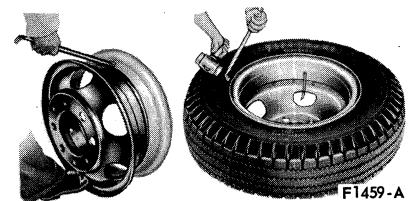

FIG. 2 Removing Ring and Loosening Tire Bead—2-Piece Rim
from a rim without a tire, stand the wheel up so that the tool slot of the ring is at the top, and the lower portion of the ring is in the rim well. Insert the rim tool between the rim slot and the gutter of the rim, lift the ring over the gutter, and pry the ring off the rim (Fig. 2).
1. Place the wheel (ring side up) on the floor. Insert the hook end of the rim tool between the ring flange and the tire bead, and continuing around the ring, pry the tire off the tapered seat of the ring (Fig. 2).